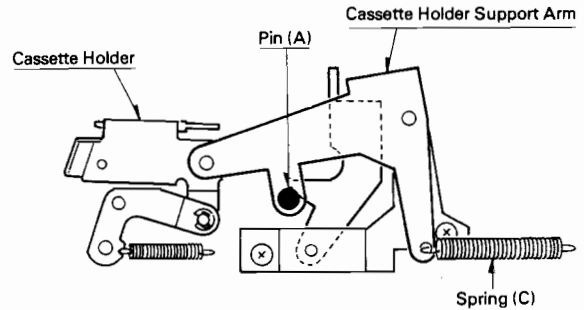

Fig. 3
3. As a result of the action in 1 and 2 above, Pin (A), through the tension of Spring (C), moves downward, causing the Cassette Holder to move in the same direction and complete loading (Fig. 3 and 4).